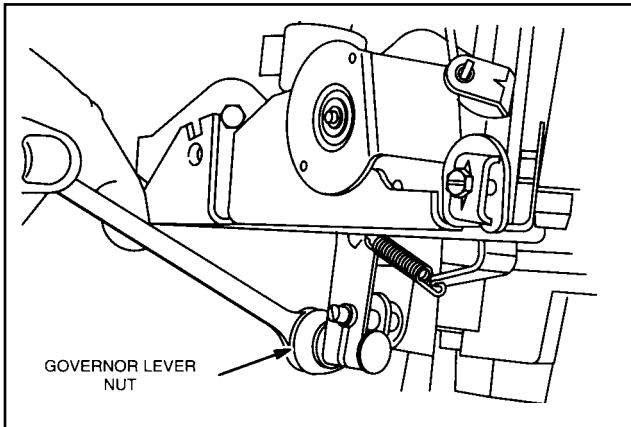

Fig. 6 - Remove Governor Lever
a. Remove governor lever from shaft, Fig. 6.